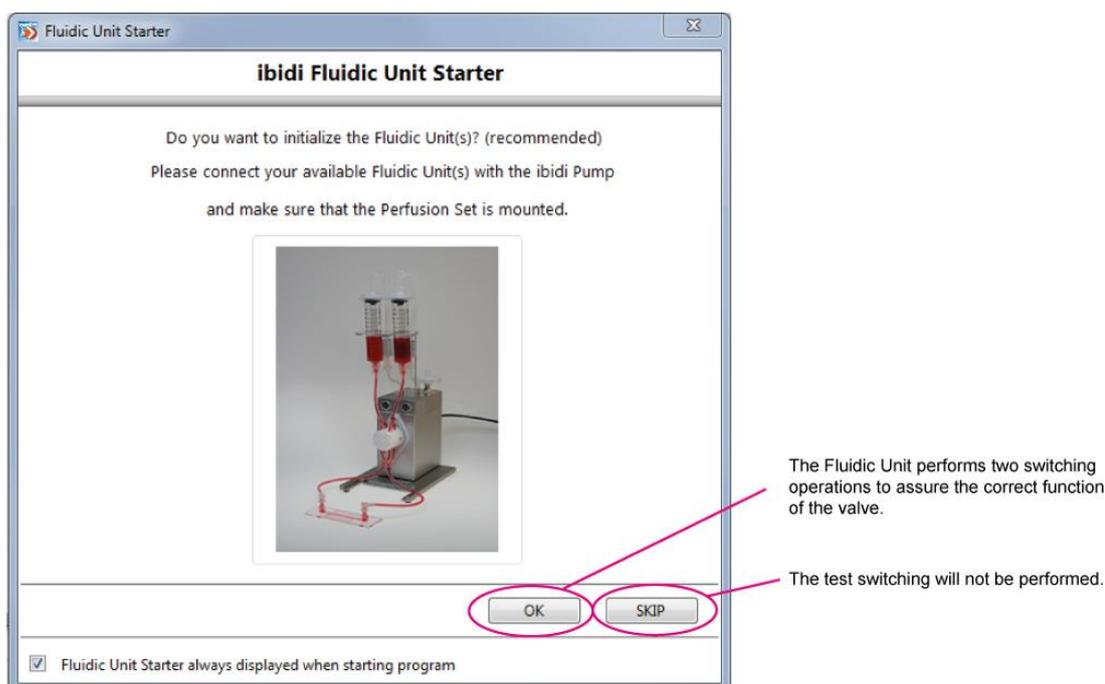

Figure 1: Fluidic Unit starter window.
- Choose one of the options in the Fluidic Unit starter window (shown in Figure 1).